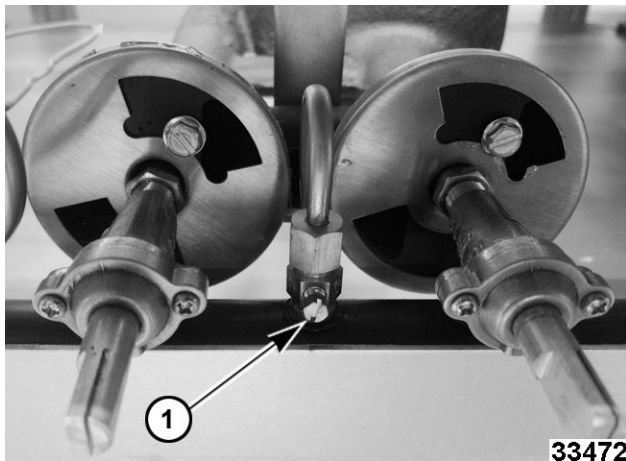
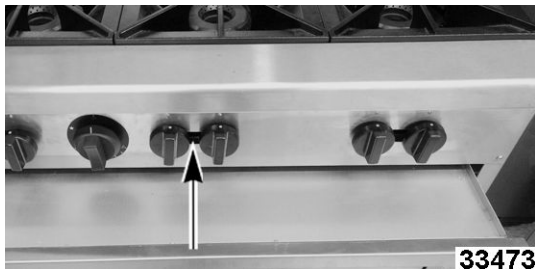

Fig. 45
Fig. 46
1. Locate pilot adjustment screw (1, Fig. 45) through the access hole in manifold cover (1, Fig. 46).